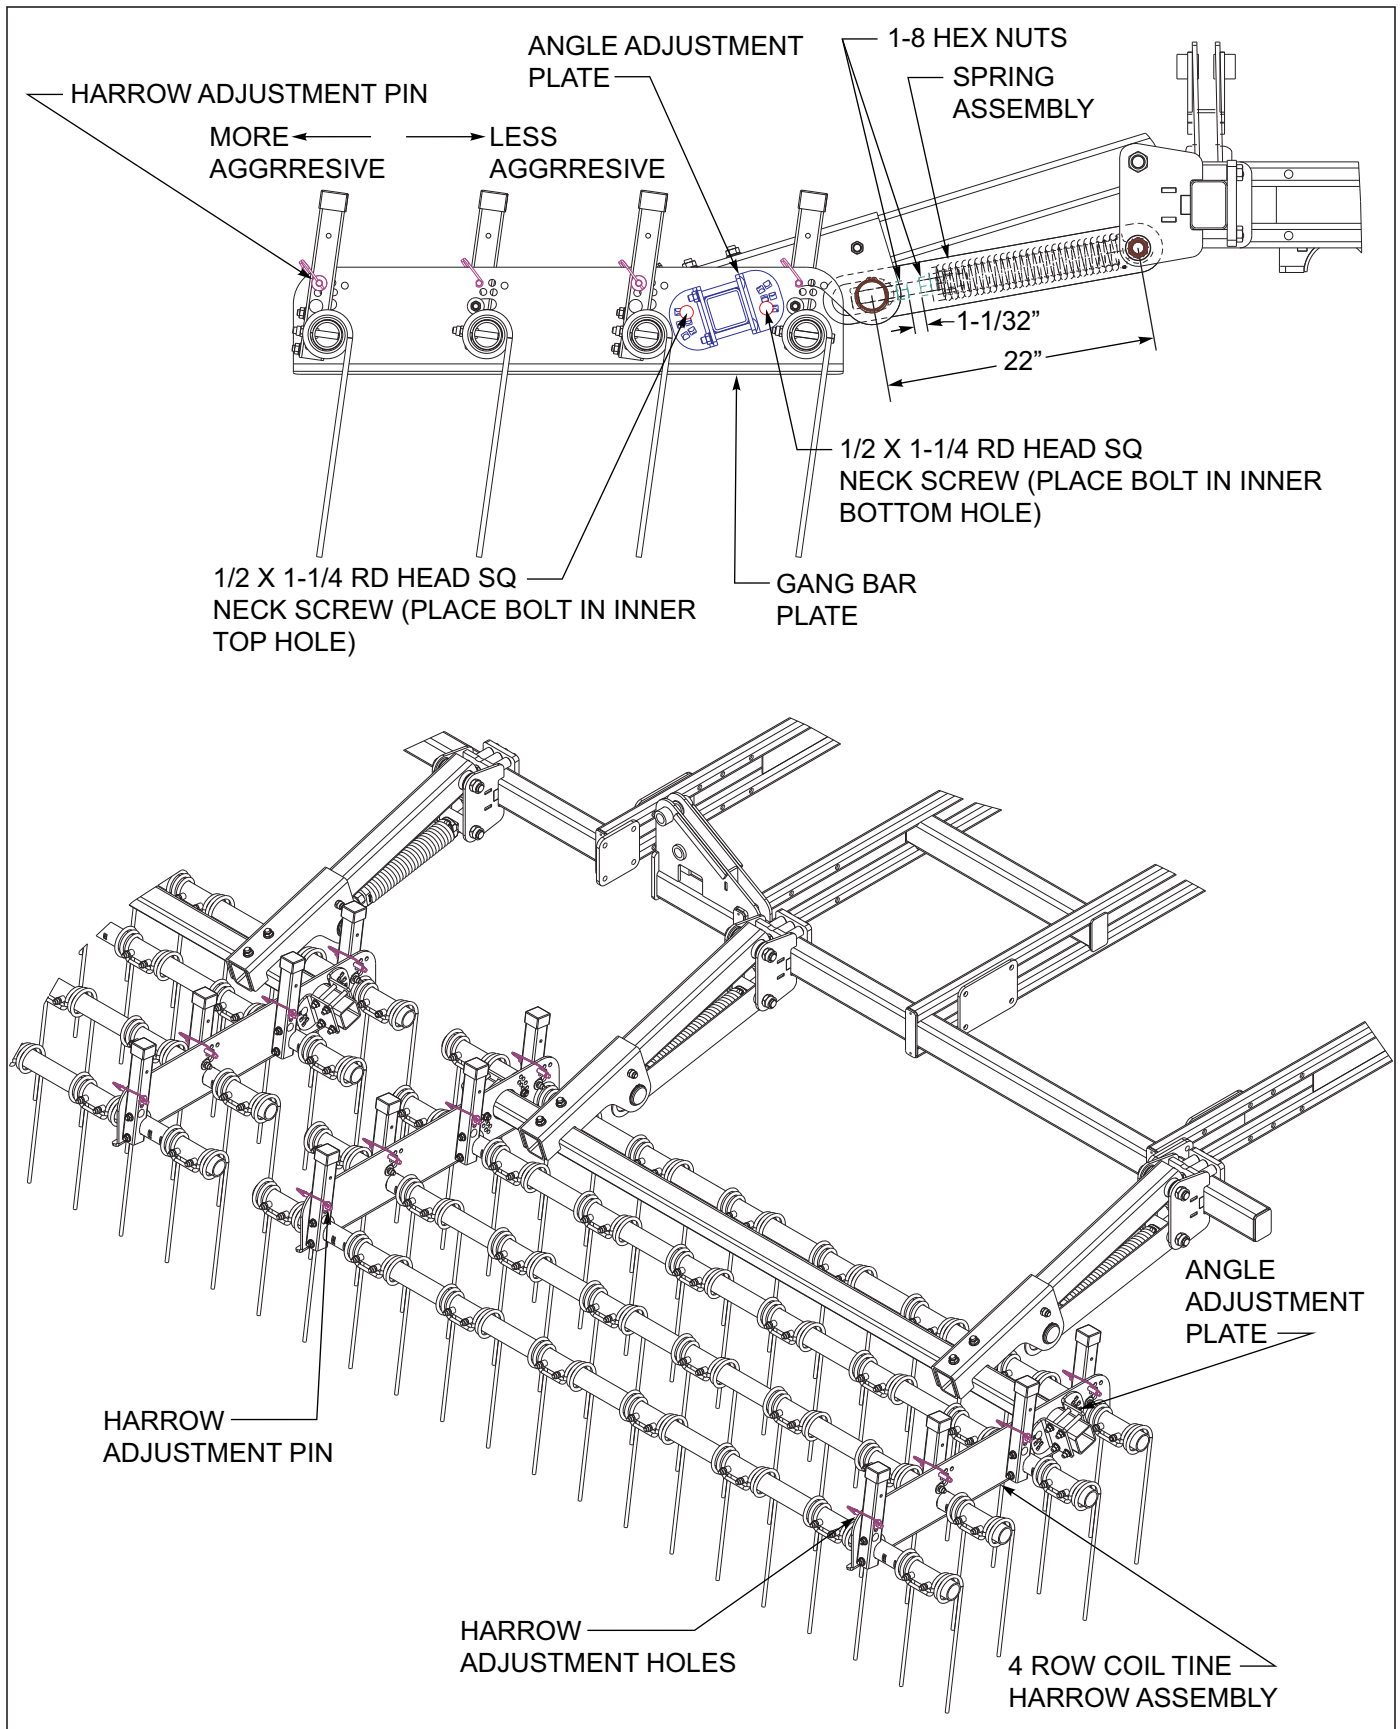

Figure 4-11: 4 Row Coil Tine Adjustment
2. In general tine harrows have better capabilities for handling more residue and wetter conditions. When operating the coil tine harrow, a more vertical tine tooth angle will make the harrow more aggressive. A lower/flatter tine angle will make the harrow less aggressive but will handle more residue and wetter conditions. To change the tine angle, raise the harrow off the ground. Remove the harrow pin from both angle adjustment tubes per tine gang bar tube See Figure 4-11. Rotate the angle adjustment tubes forward (less aggressive) or rearward (more aggressive) and reinstall both spring clip pins. Repeat the tine adjustment for each tine gangbar tube and harrow section.
5. The initial setting for the spring assembly should be 22". Each harrow section may also be adjusted for operating height. To change the harrow height See Figure 4-11, loosen both 1-8 hex nuts. Raise or lower the harrow arm by turning the bolt head for the spring adjustment bolt. Then re-tighten the 1-8 hex nuts. When initially setting the harrow height, the bottom tips of the tine tooth (pulled back at the desired tooth angle) should be approximately level with the field cultivator sweeps.